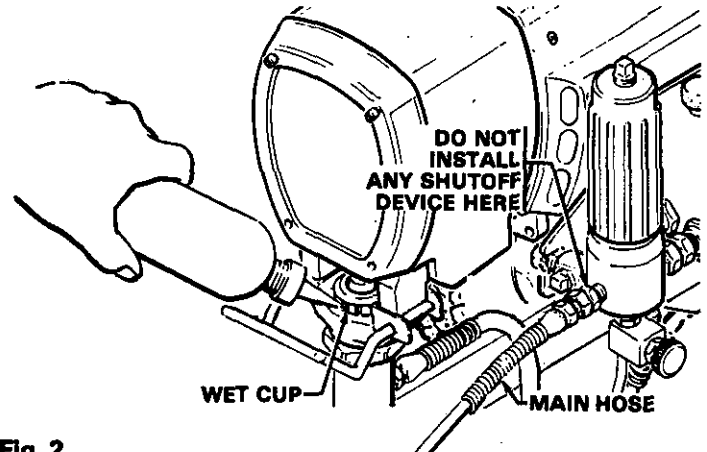

Fig 2
3. Never install any shutoff device between the filter and the main hose. See Fig 2.
2. **Fill Packing Nut/Wet-Cup (See Fig 2.)**